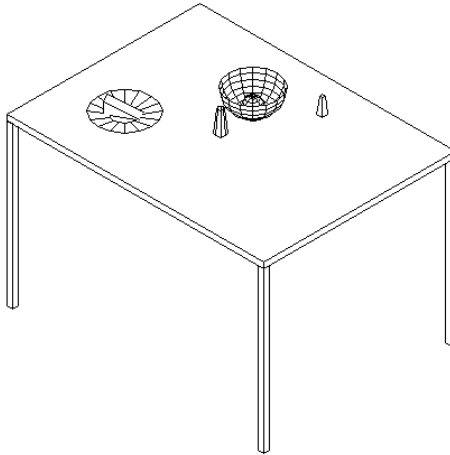

Figure 23-22: The table with a plate, wedge of cheese, bowl, orange, and nonmatching salt and pepper shakers.
16. Save your drawing. It should look like Figure 23-22. If you look carefully, you'll see that the edge of the cheese wedge goes slightly through the plate.